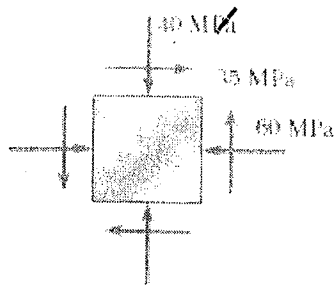

Figure 5
5. Construct the Mohr's circle for the given state of stress shown in Figure 5. Hence determine,